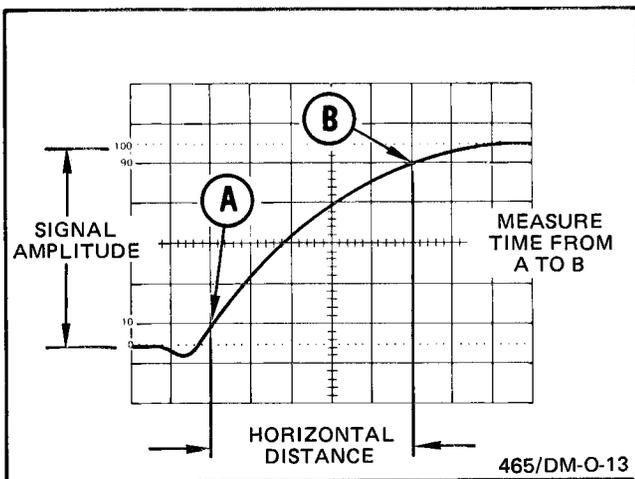

Fig. 2-16. Risetime.
2. Adjust the vertical POSITION control so that the display bottom just touches the 0% graticule line and the display top just touches the 100% graticule line (see Fig. 2-16).
3. Measure the horizontal distance (divisions) between the 10% and 90% points on the waveform (point A to point B, Fig. 2-16).